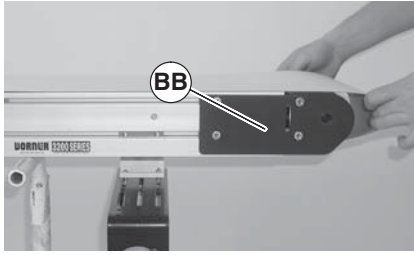

Figure 30
- Remove belt (Figure 30, item BB) from conveyor, one stand at a time. Start on one end of conveyor and work down to opposite end.